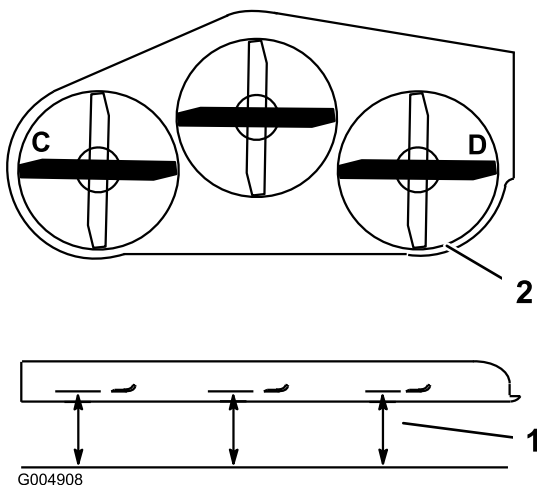
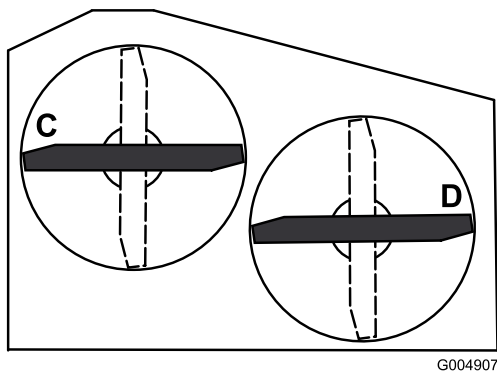

Figure 73
Figure 74
2. Position the blades side-to-side. Measure at **C** and **D** locations from a level surface to the cutting edge of blade tips (Figure 73). For 36 inch mower decks use Figure 74.